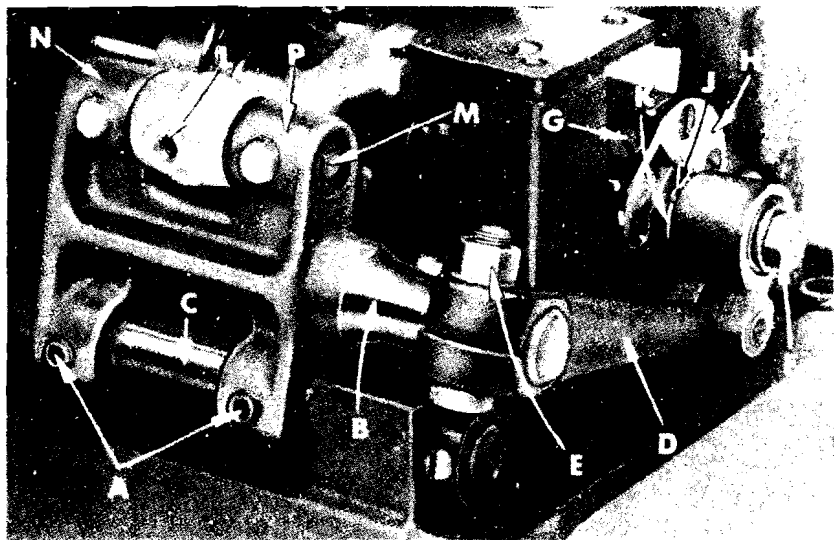

Fig. 11
Right to left adjustment can be made by loosening screws (A, Fig. 11) and slightly move feed rocker (B) on feed rocker shaft (C) as required, then retighten screws. Check to ensure that feed rocker arm (D) does not bind after adjustment.
Forward or rearward centering of feed dog can be accomplished by loosening nut (E, Fig. 11), move feed rocker (B) as required and retighten nut.
Set the stitch to required length. This is accomplished by loosening lock nut (F, Fig. 11) $\frac{1}{2}$ turn, (it has a left hand thread) on the end of the stitch regulating stud and turning stitch adjusting screw (G) located under the left end of the cloth plate in the head of the mainshaft (H), which is marked with "L" and "S". Turning the screw in a clockwise direction shortens the stitch (moves stitch regulating stud toward the "S") and turning it in a counterclockwise direction lengthens the stitch (moves stitch regulator stud toward the "L"). Retighten the lock nut securely. To prevent destructive damage to the feed drive bearing, key screw (J) must engage the "U" shaped key slot in ferrule (K).
The feed rocker assembly may require lubrication and repair after years of operation. This can be accomplished as follows: Loosen nut (E, Fig. 11) and remove nut (F). Remove feed rocker arm (D) from machine by rocking slightly. Loosen screws (A) and remove stop collar on right end of shaft (C). Shaft can now be withdrawn. Loosen Allen screw (L) and remove shaft (M). Now repack bearings.
When packing bearings, parts must be cleaned and greased. Grease should be applied directly from the tube to avoid contamination. Tube of grease is available under part No. 28604 P. Greased bearings are located at (N, P, Fig. 11). If grease sealed bearings are replaced, they should be pressed to flush with the casing. To assemble, start tapered end of shafts first, twisting slightly when entering the grease seals to prevent damage. Check for proper adjustment of feed dog as described under the "Feed Dog Settings". Also check to see that there is no binding at any point.